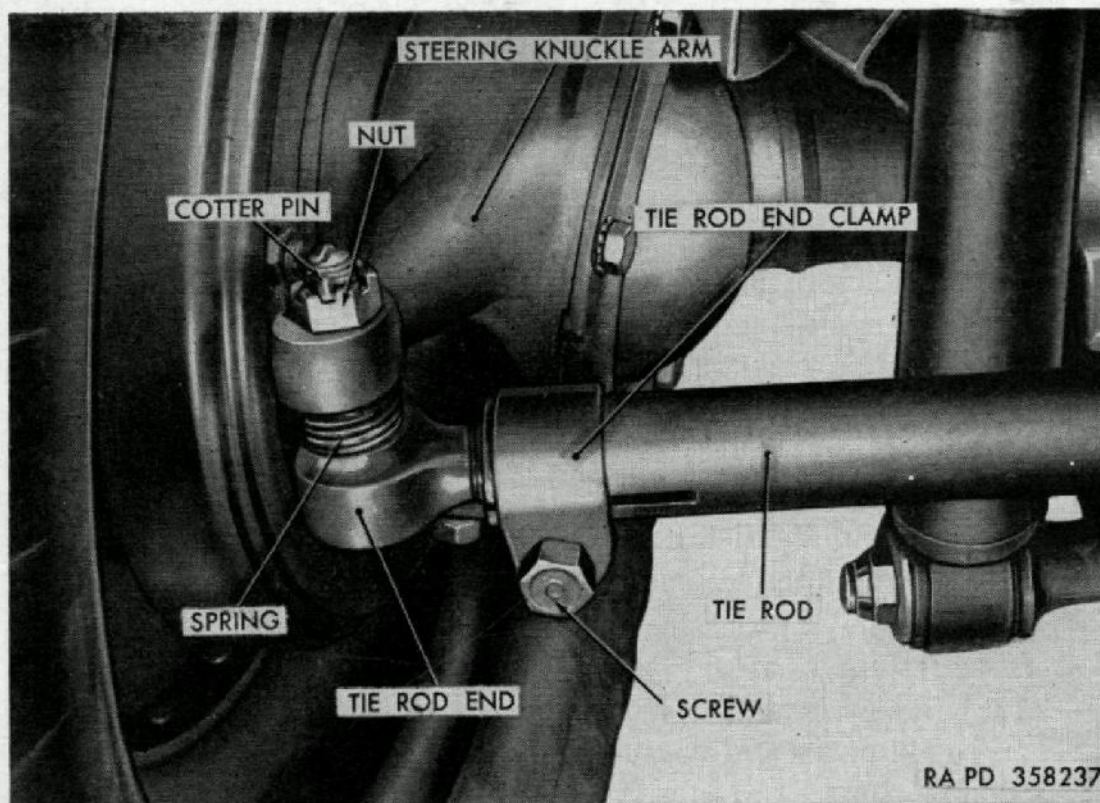

Figure 102. Tie rod end installed.
*b. Toe-In Adjustment.* Remove the cotter pin and nut and remove the tie rod end from the steering knuckle arm (fig. 102). Loosen the nut and screw securing the tie rod and end clamp (fig. 102), and turn the tie rod end one complete turn on or off to obtain correct toe-in measurement.